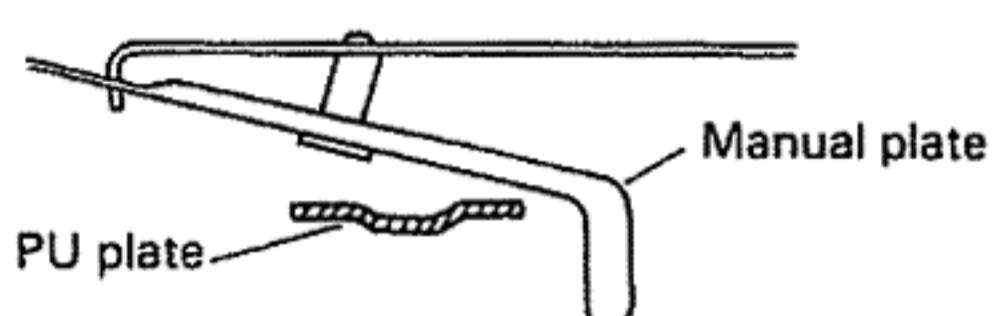

Figure 11
3) While the stylus tip rides in the first modulated groove (not lead-in groove) of 12" record (30cm), the manual plate must not touch the PU plate (See Figure 11).